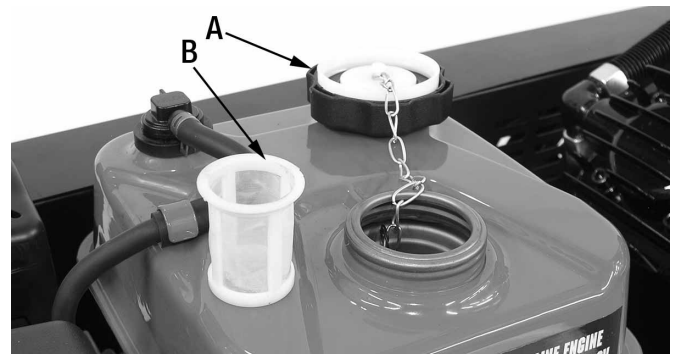

FIGURE 18
- 1) Remove gasoline tank cap (A) Fig.18 and pull out the fuel strainer (B).